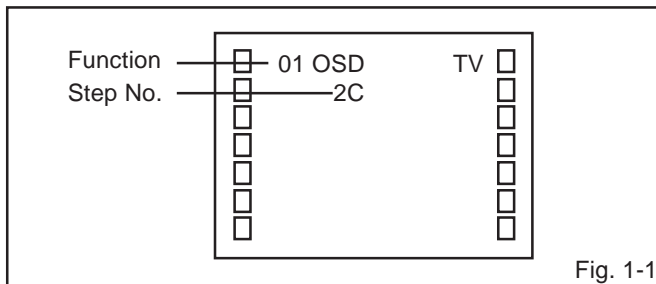

Fig. 1-1
2. Press the VOL. DOWN button on the set and the Channel button (9) on the remote control for more than 1 second to appear the adjustment mode on the screen as shown in Fig. 1-1.